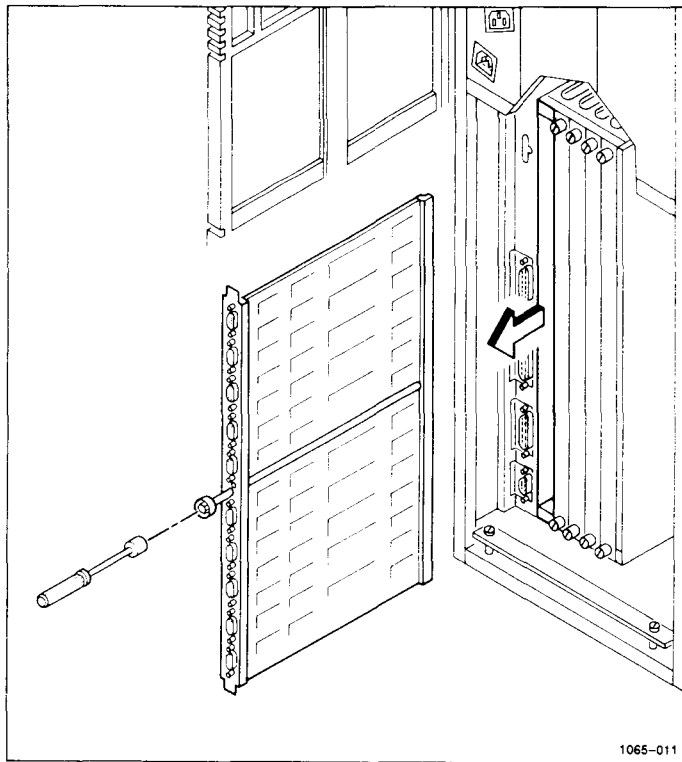

Figure 6-2. Removing an Expansion Board
3. Slide the board out of the card cage (see Figure 6-2).